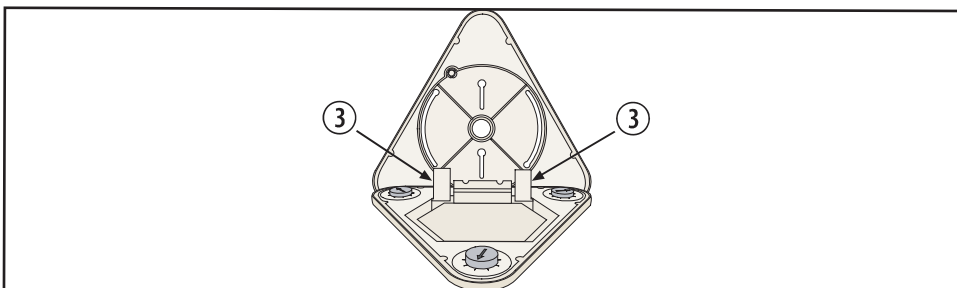

Figure 3.2: Cover Release Tabs
- If necessary, you may remove the base from the cover by pressing the two cover release tabs inward while lifting the base away from the cover. Refer to *Figure 3.2 Cover Release Tabs*.